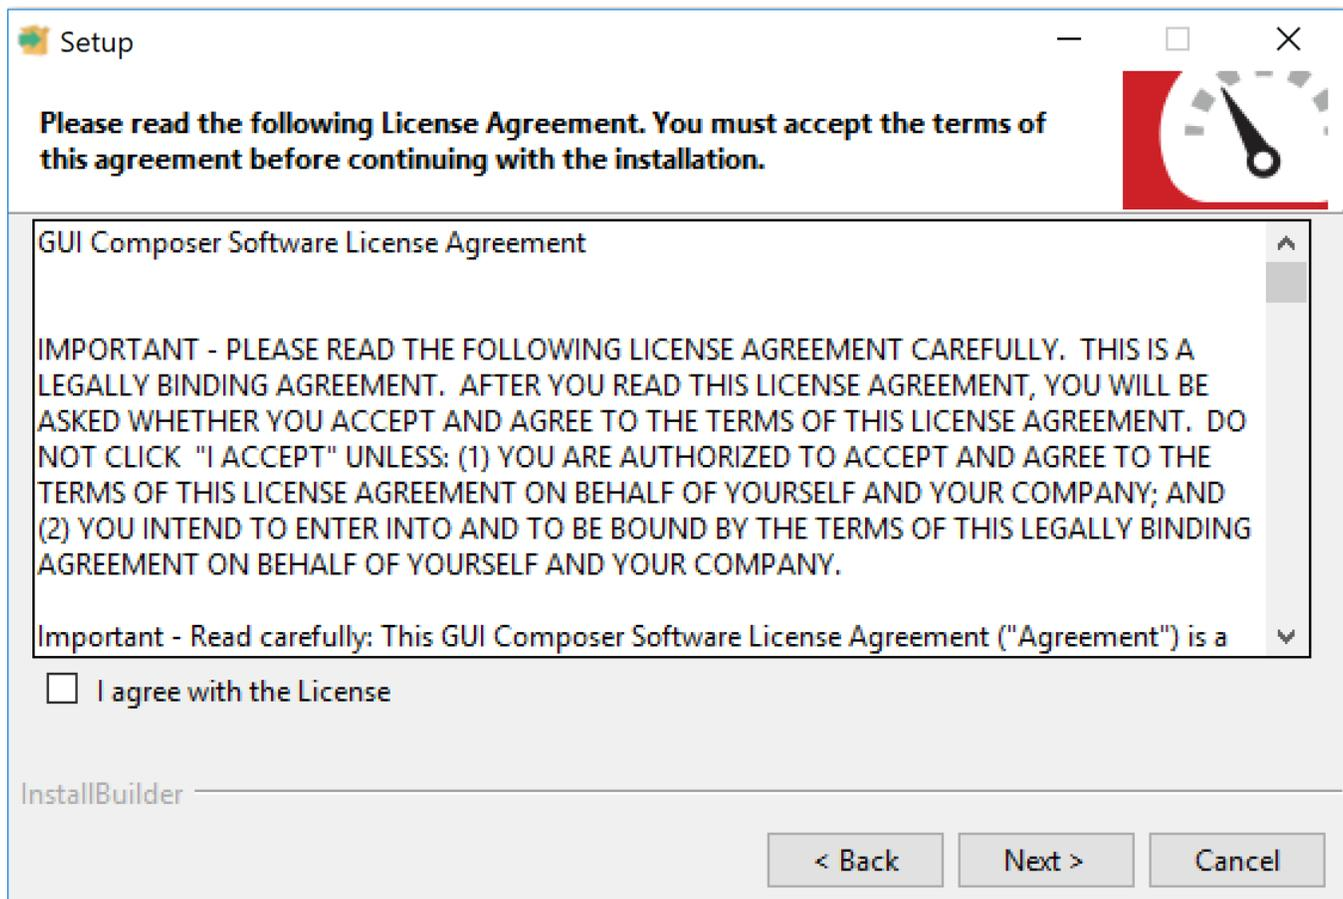

Figure 4. License Agreement
Step 3. Review the license agreement (see Figure 4).